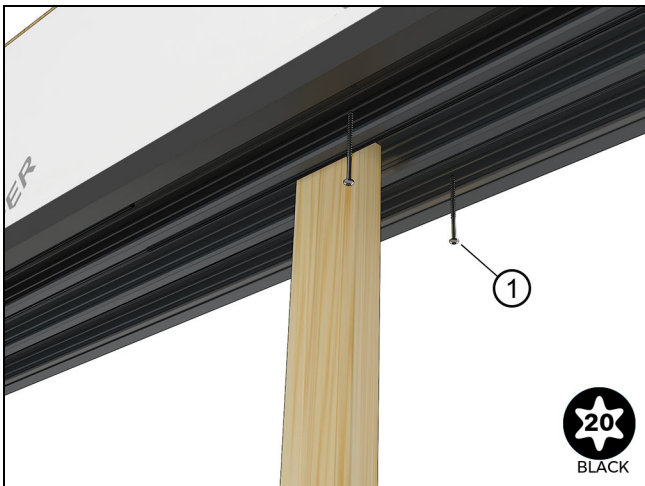

Figure 64
4. Starting at the center, shim and fasten the head jamb with #10 x 3" (76) screws so that a story pole stays in light contact with the sill and head jamb. Repeat this process the entire width. See Figure 63 and Figure 64.